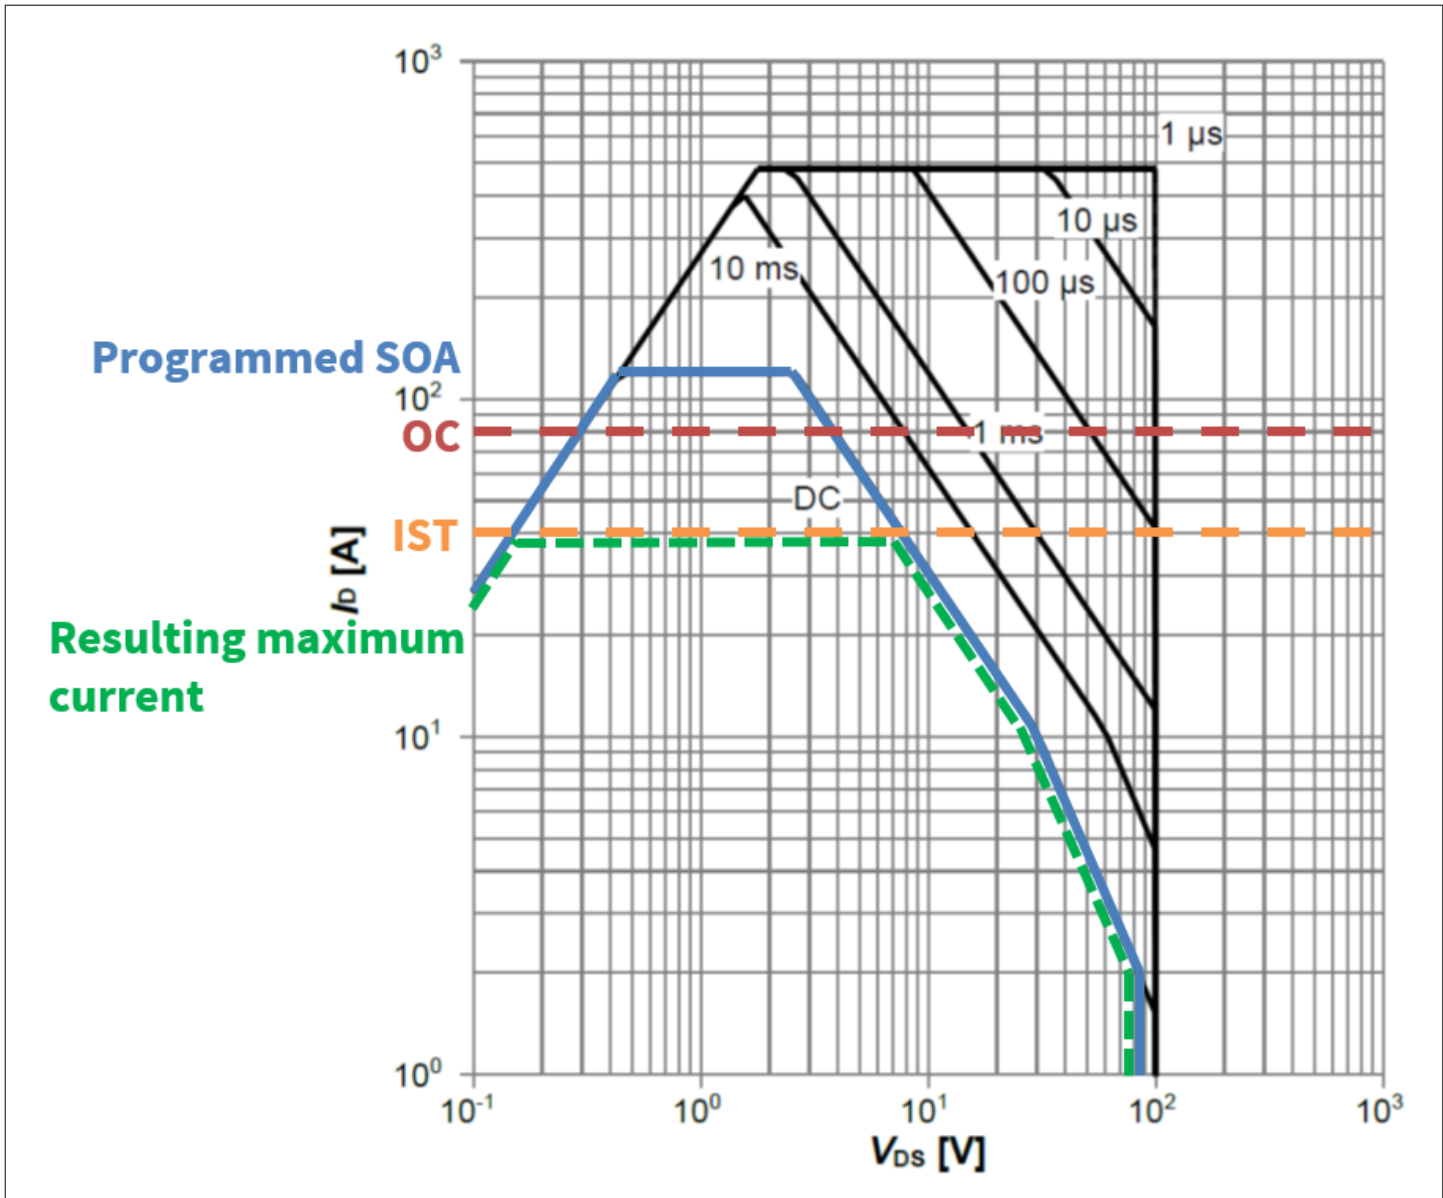

Figure 6 Safe operating area
- XDP710 starts charging the output capacitor by regulating the current through the FET according to the maximum allowed in the SOA. From Figure 6, the DC line allows an  $I_{SOA} \cong 4.5$  A at 48 V.